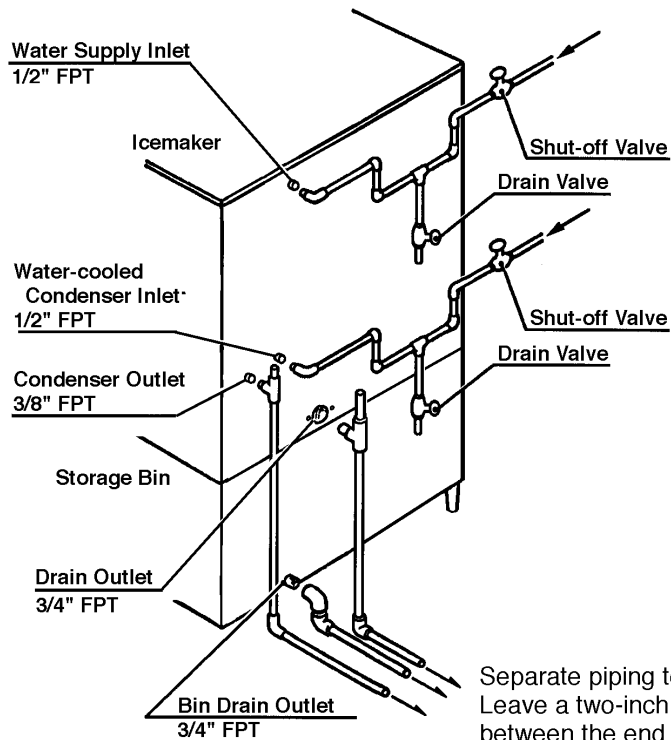

Fig. 9
7. WATER SUPPLY AND DRAIN CONNECTIONS - See Fig. 9
- 8) Close the Water-cooled Condenser Water Supply Line Shut-off Valve. See Fig. 9.
- 4) Close the Potable Water Supply Line Shut-off Valve and open the Potable Water Supply Line Drain Valve. See Fig. 9.